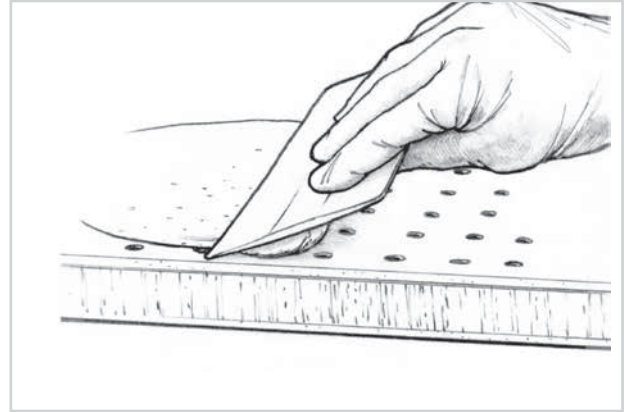

Figure 5-4 Fill any remaining voids and fair the surface with an epoxy/407 mixture.
6. Sand the surface and fill any remaining holes with an epoxy/407 low-density filler mixture, thickened to the consistency of peanut butter (Figure 5-4). After the epoxy has cured thoroughly, sand the surface fair and finish it as described in Section 14 and 15.